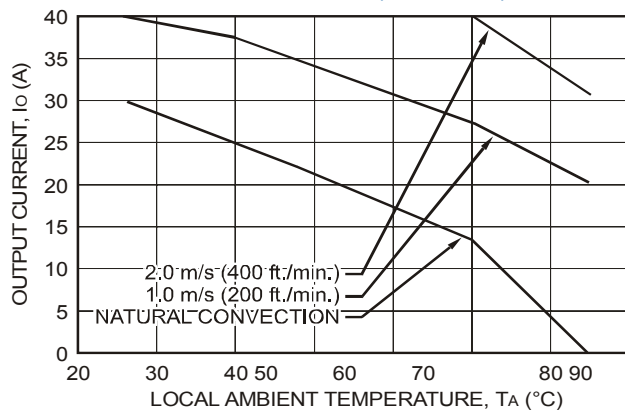

**Figure 57. Output Power Derating for QRW040A0S1R0 (Vo = 1.0V) in Transverse Orientation with No Baseplate; Airflow direction from VIN (+) to VIN (-); VIN = 48V.**
Increasing airflow over the module enhances the heat transfer via convection. Figures 57 through 64 shows the maximum current that can be delivered by the corresponding module without exceeding the maximum case temperature versus local ambient temperature (TA) for natural convection through 2 m/s (400 ft./min.).